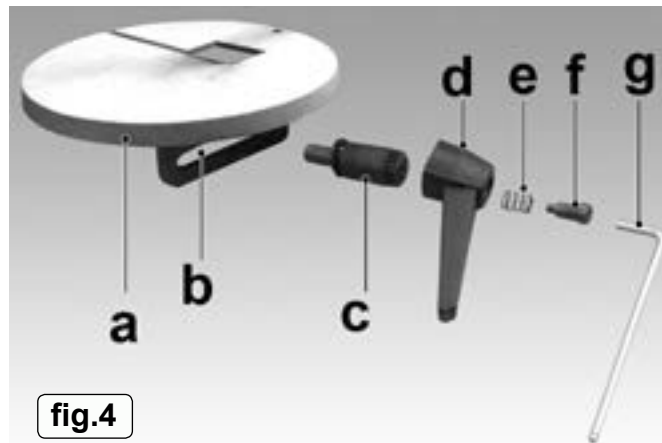

fig.4
5.3. Attaching the sanding belt table. (See fig.4).
- 5.3.1. Take the sanding belt table (a) in the orientation shown in fig.4 and allow the sanding belt to pass through the slot and into the hole in the middle of the disc. Lower the disc down until the adjusting slot (b) is adjacent to the fixing nut on the corner of the main casting.
- 5.5.1. From horizontal, adjust to required angle using the supplied protractor (or similar). Utilize the slot (b) in fig.4 to minimise the gap between belt and table.